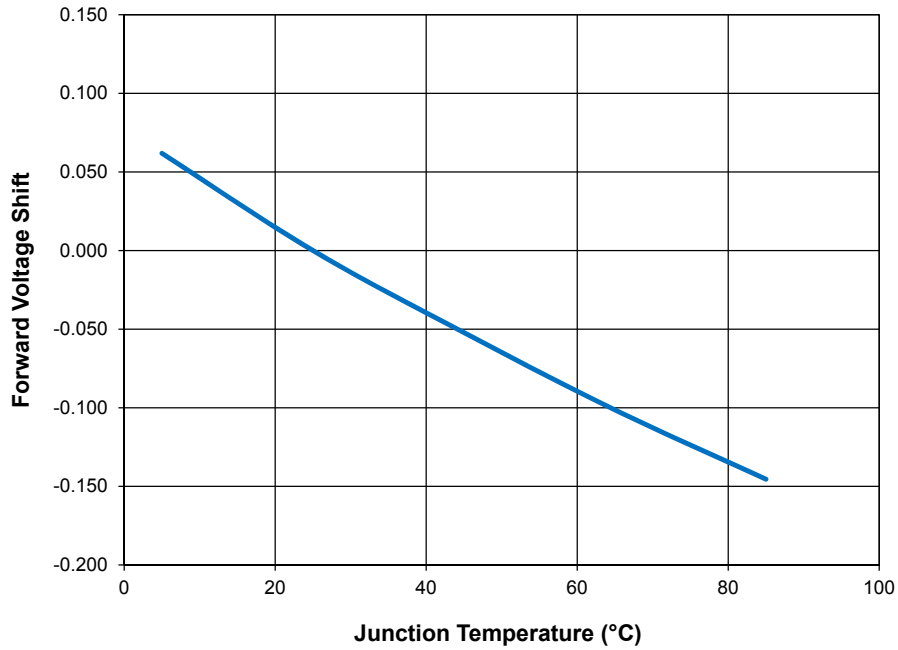

Figure 11.
4. Dynamic resistance is the inverse of the slope in the  $I_f$  vs.  $V_f$  curve and is measured at  $I_f = 1000\text{ mA}$  (see Figure 11).
Note for Figure 11: